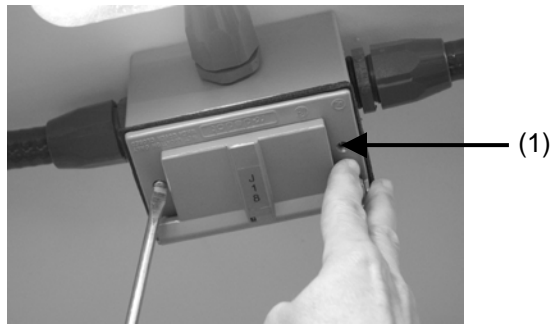

Figure 4-44. Internal receptacle outlet box.
2. Remove screws (1) and duplex receptacle cover (Fig. 4-44).